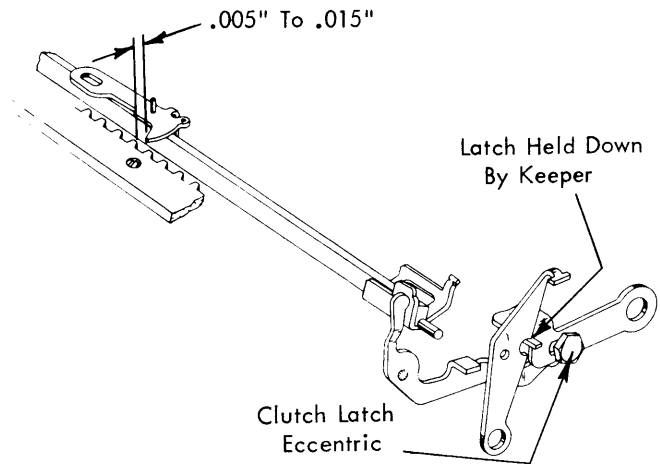

FIGURE 131. Pawl Clearance Adjustment
2. **Pawl Clearance (721, 723 and 725)** - Adjust the clutch latch eccentric so that the escapement pawl will clear the rack teeth by .005" to .015" when the latch is being held down by the keeper (Fig. 131).